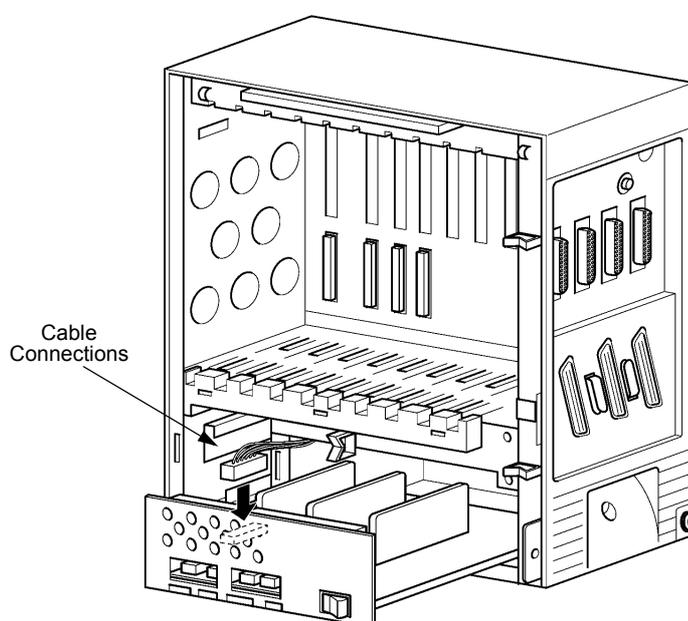

Figure 4-22 Connecting Wires to the PSU
1. Locate the PSU in the space provided and connect the 8-wire cable from the PSU to the connector on the backboard of the KSU. Refer to *Figure 4-22 Connecting Wires to the PSU*.